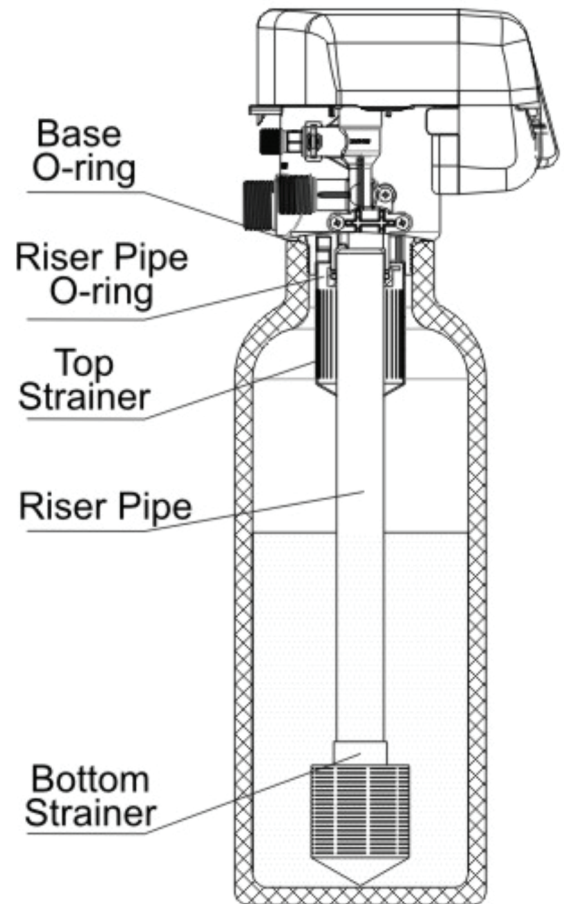

Figure 5-1
1. As Figure 5-1 shows; insert a 32mm riser pipe with bottom basket into the center of the mineral tank. If pipe is higher than the top of the pressure tank, mark it, remove from tank, and cut. Take care to keep foreign material out of pressure tank.